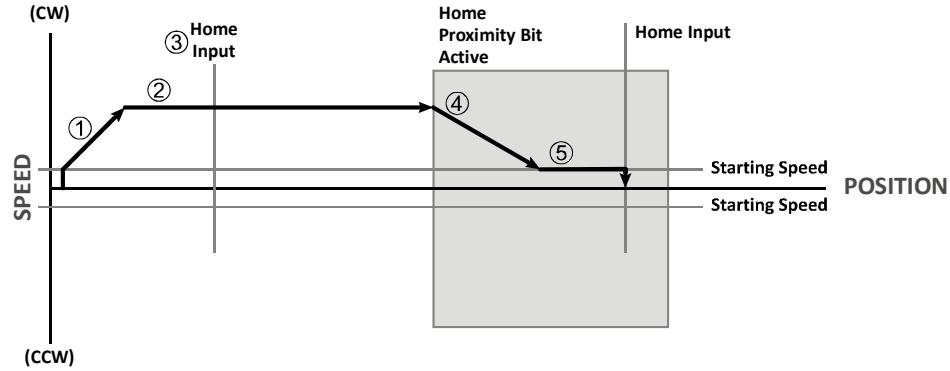

Figure R5.2 Homing with Proximity
Figure R5.2 below shows the move profile generated by a +Find Home command when you use:
Note ➤ Figure R5.2 shows the Backplane_Proximity_Bit staying active until the IANF2(E) reaches its home position. This is valid, but does not have to occur. As stated in step 4, the IANF2(E) starts to hunt for the home position as soon as the Backplane_Proximity_Bit makes a 0→1 transition.